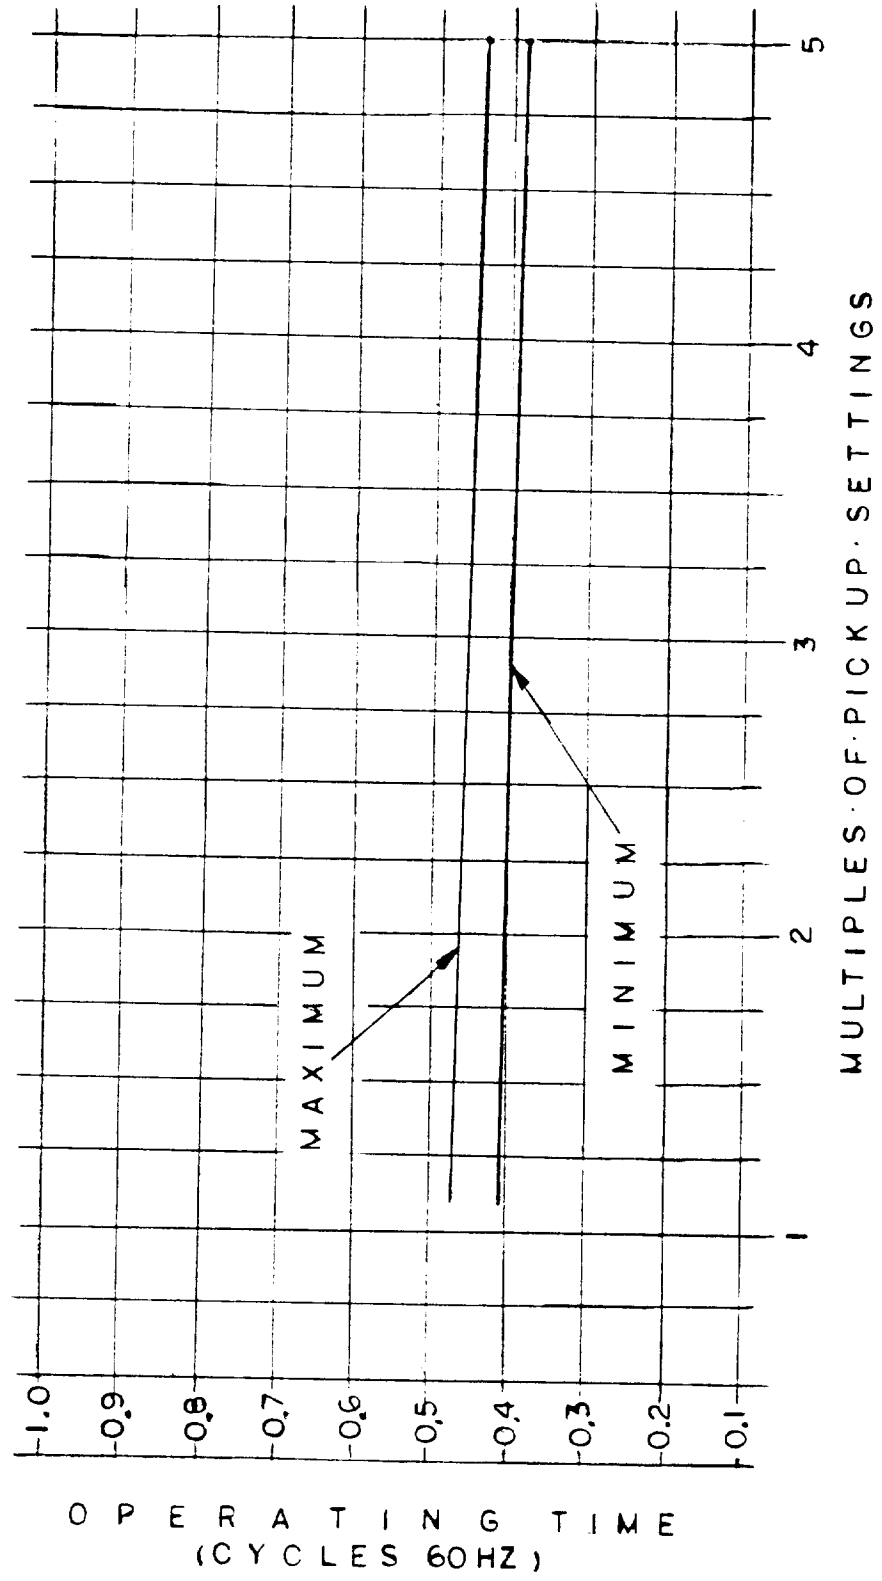

Fig. 7 (0285A6207-0) Pickup Time for Suddenly Applied Three Phase Current
- Fig. 7 Pickup Time for Suddenly Applied Three Phase Current